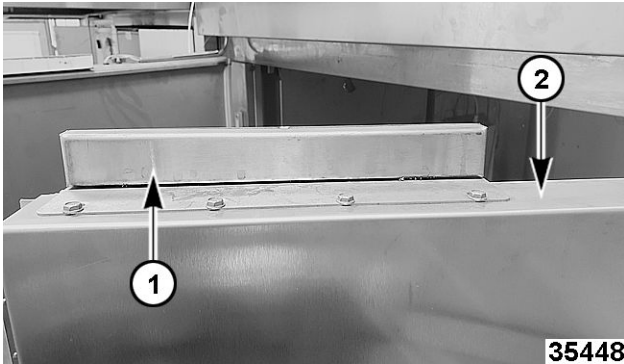

Fig. 58
1. Use four 10-16 x 3/4" hex head self-drilling screws to install magnet assembly (1, Fig. 58) to top of door (2, Fig. 58).